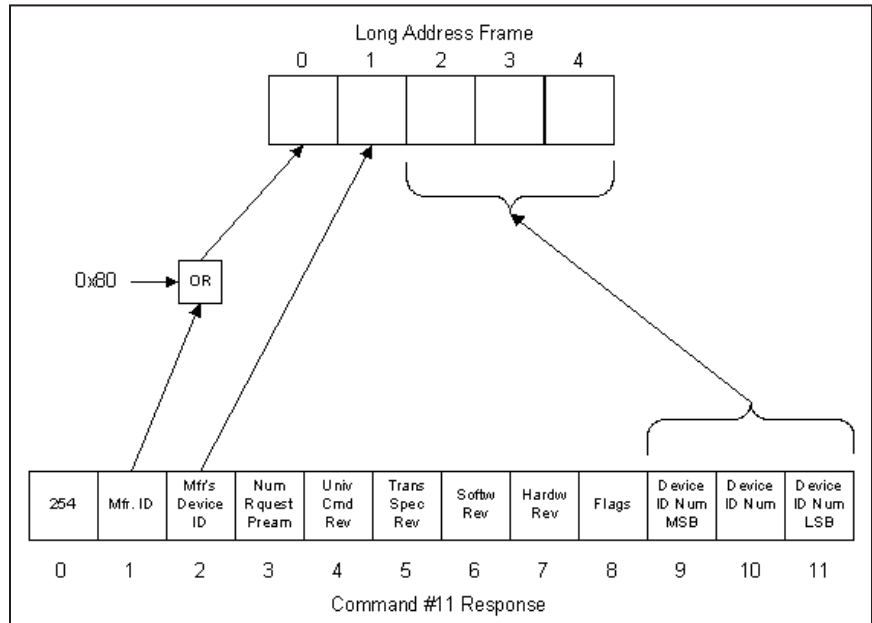

Figure 4-2 Command #11 Response to Long Frame Address
2. Extract the Manufacturer ID, Manufacturer’s Device ID, and Device ID Number from the response and construct the Long Address Frame as shown in Figure 4-2.